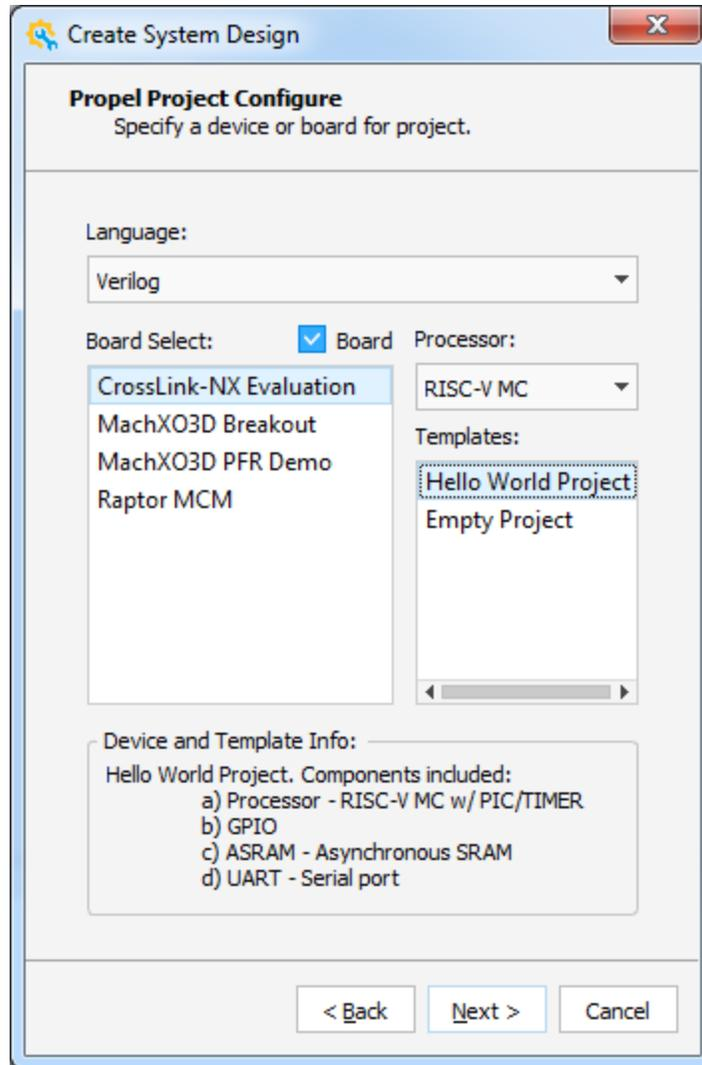

Figure 2.9. Specify a Board for Project
6. Click **Board**, Board Select area shows in Propel Project Configure Wizard, Select a desired Board such as Crosslink-NX Evaluation and select desired template in the **Templates** section, such as Hello World Project (Figure 2.9).